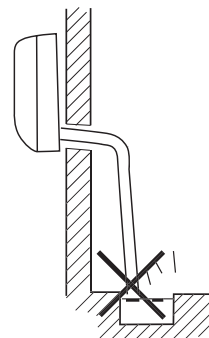

Fig. 9.5 Avoids unpleasant odours.
- Install the condensed water pipe in such a way that its free end is kept away from unpleasant odours, such as from open drains, to ensure that they are not drawn back into the unit (see Figure 9.5).